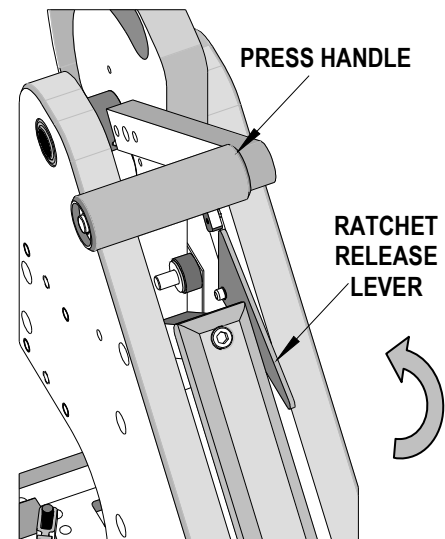

Figure 2-8
4. An anti-backup ratchet insures a complete termination. However, in case of a jam, the ratchet mechanism can be released by pulling up on the release lever on the upper left side of the press. See Figure 2-8.
**Warning:** Once the press ram handle has started to descend, it cannot be returned to the up position until the full stroke of the press has been completed. In case of a jam or some other problem, should the press ram ever need to be returned to the up position before completing the full stroke, pull up on the ratchet release lever and raise the press ram handle. The ratchet release lever is located on the upper left side of the press frame. See Figure 2-8.